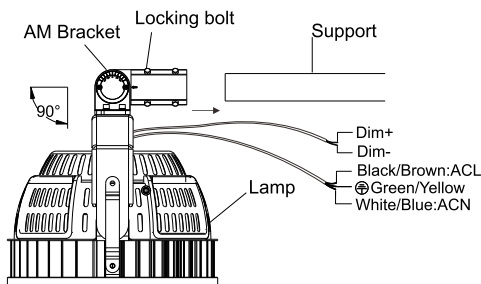

Figure 17
1. Loosen the four bolts on AM bracket, Place the bracket into the pole and lock the four bolts (Figure 17);